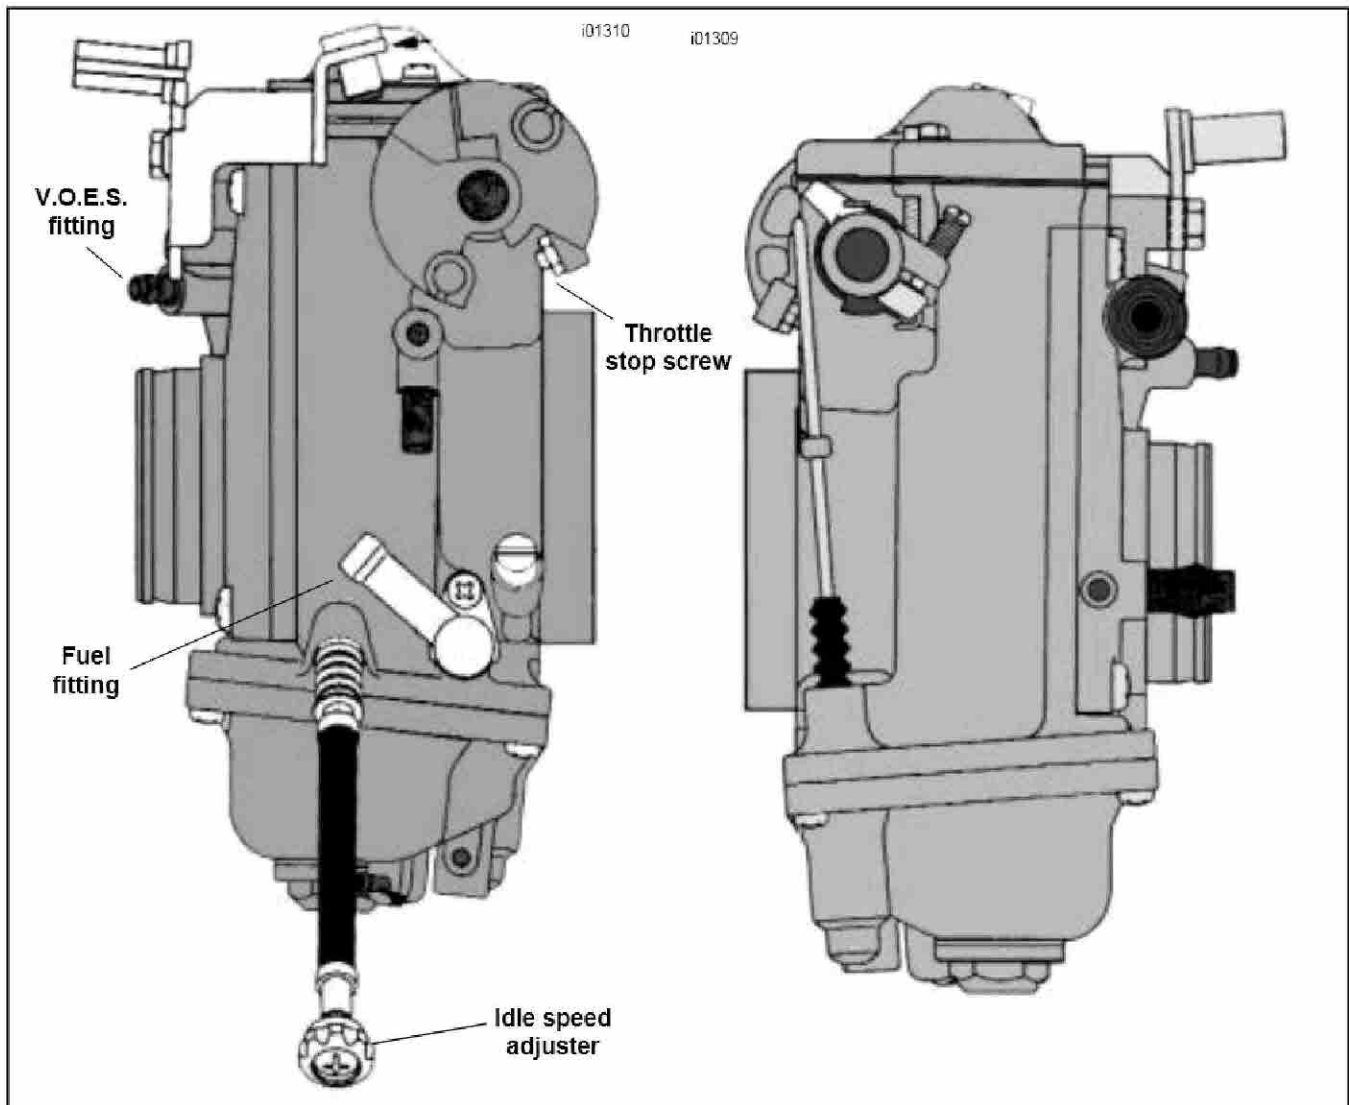

Figure 4. Side Views Of Carburetor
2. See Figure 4. On 1340 Evolution engines, slip the V.O.E.S. vacuum hose on the carburetor fitting below idle cable bracket. (Twin Cam 88™ engines do not have V.O.E.S. so vacuum fitting must be plugged.)
Refer to the applicable Service Manual and adjust throttle cables following the instructions given. Adjust throttle cable so throttle valve (slide) opens fully. See Figure 4. Lever stop screw should touch carb body.
See Figure 4. Refer to the applicable Harley-Davidson Service Manual and adjust throttle cables following the instructions given. Adjust throttle cable so throttle valve (slide) opens fully. Lever stop screw should touch carb body.